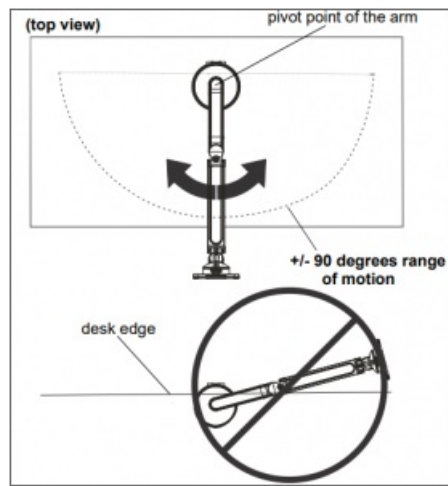

Figure 16
1. Adjust arm angle as desired up to 90 degrees in either direction. (See Figure 16)